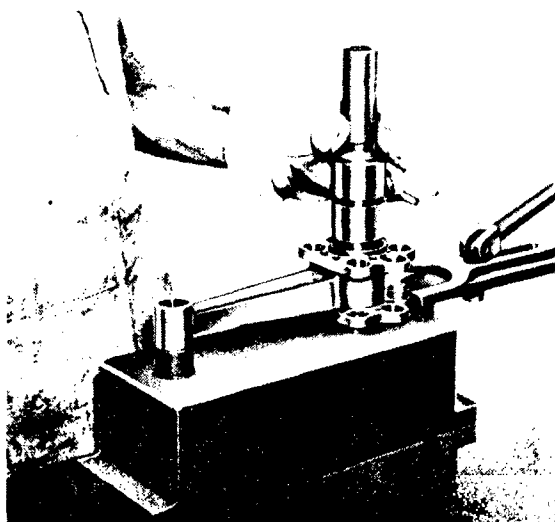

Figure 68 — Replacing Master Rod Bearing
(2) Push the liner from the master rod with an arbor press.
(3) Polish the bore and clean the oil passages.
(4) Place the master rod in an oven and heat it to 204.5° C. (400° F.). Place a new master bearing in an electric refrigerator and chill it to -23.5° C. to -45.5° C. (-10° F. to -50° F.)
(5) Place the bearing in the master rod, making sure that the oil hole opposite the groove in the master rod bearing is installed next to the groove in the master rod. The bearing must come to rest flush with the bottom edge of the master rod. The beveled edge of the bearing should be .015 inch below the upper edge of the master rod. (See figure 68.)
(7) After installation, the crankshaft crank-pin will be measured accurately and the master rod bearing diamond bored to not less than .0023-inch clearance in accordance with the limits in Section XV.